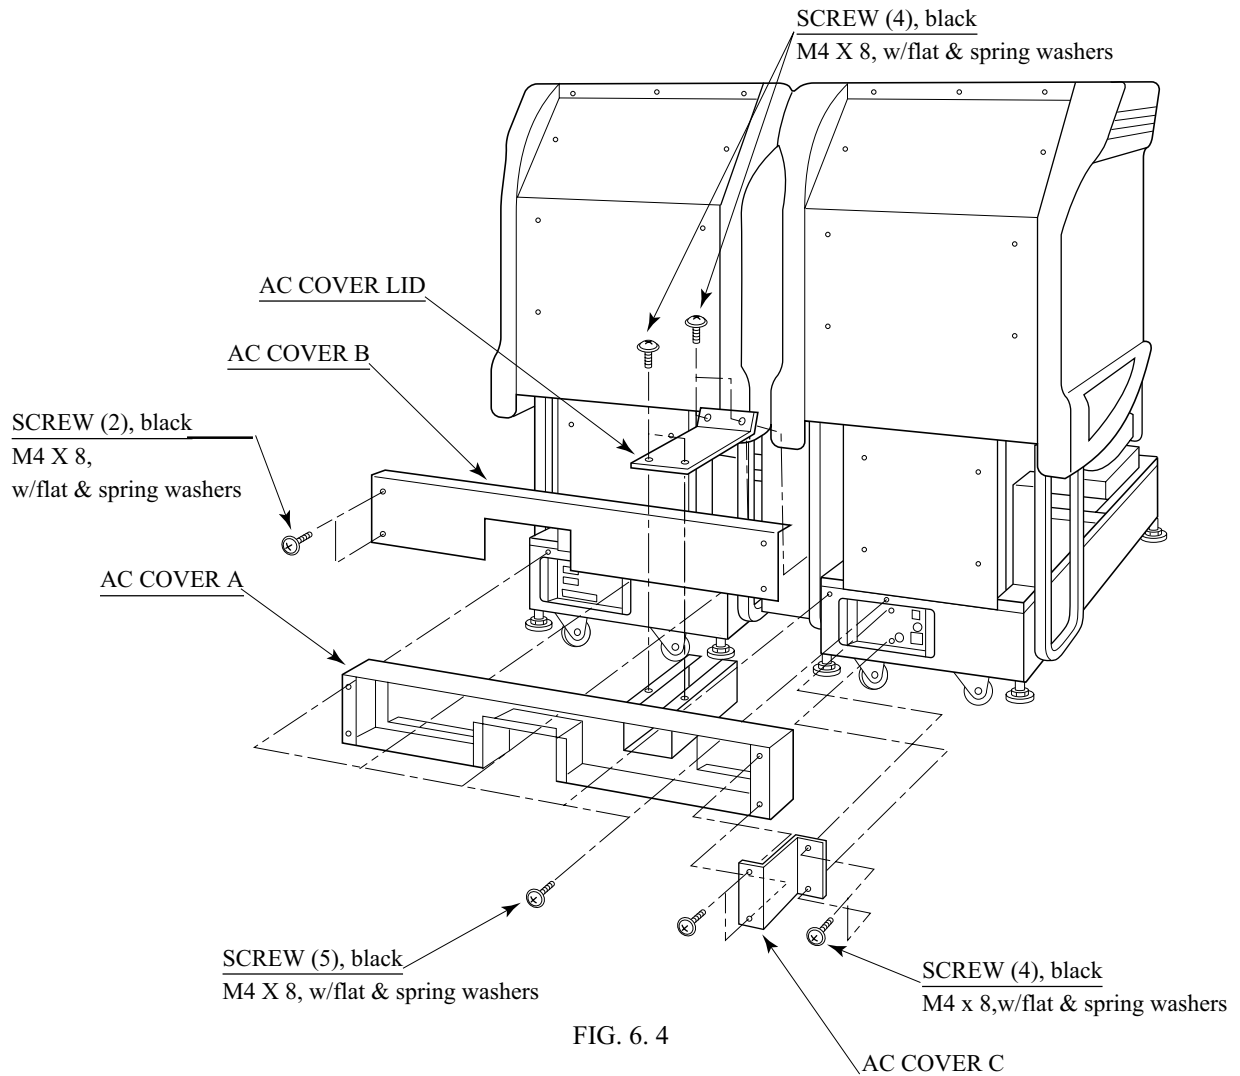

FIG. 6.4
- ① Attach AC COVER A to the back of the cabinet (Fig. 6.4) by securing with 5 screws.
- ② Make wiring connections between both cabinets & the coin chute tower. Insert the supplied wiring connectors to the corresponding ones which have an identical color and the same number of pins.
- ③ Insert the optic fiber cables to the optic fiber connectors in a manner as applicable. There are "TX" and "RX" connectors. Make sure to connect the "TX" connector of one cabinet to the "RX" connector of the other cabinet.
- ④ Secure the wiring and optic fiber cable with cord clamps in AC COVER A.
- ⑤ Install AC COVER B. Insert AC COVER B to AC COVER A from above and secure with 4 screws.
- ⑥ Secure AC Cover C & AC Cover Lid with 4 screws for each.